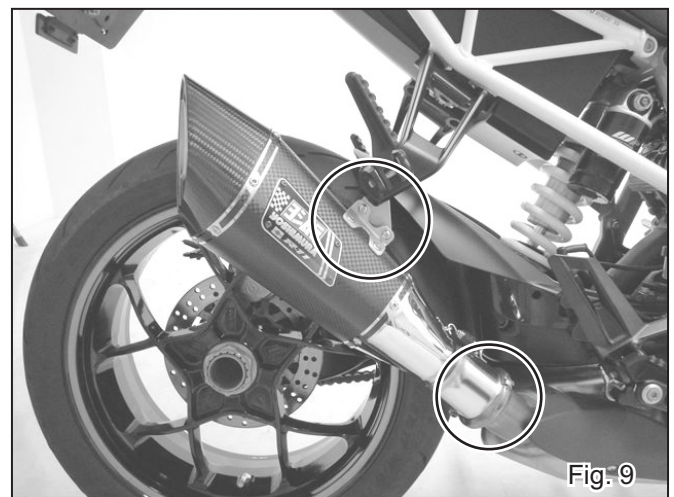

Fig. 9
8) Check that there are proper clearances between Yoshimura slip-on and other components. Then, tighten and torque stock clamp band, Button Bolt M6x35 and Cap Bolt M8x25 in order (See Fig. 9).